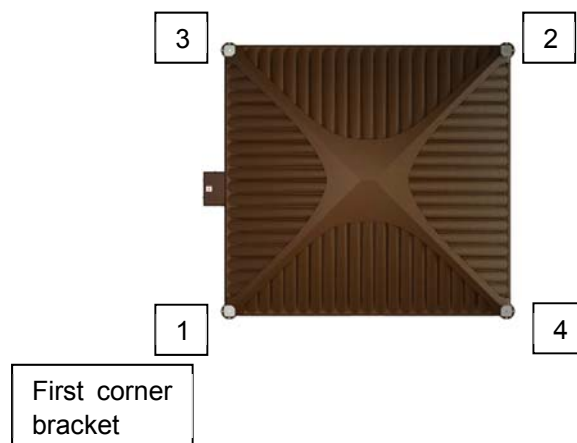

Figure 74
- 4) Repeat step 3 for each remaining corner bracket, follow the order of installation as shown in Figure 74, 1 to 4.
- 6) Repeat step 5 for the remaining brackets. Follow the same assembly pattern as shown in Figure 74 and Figure 76.